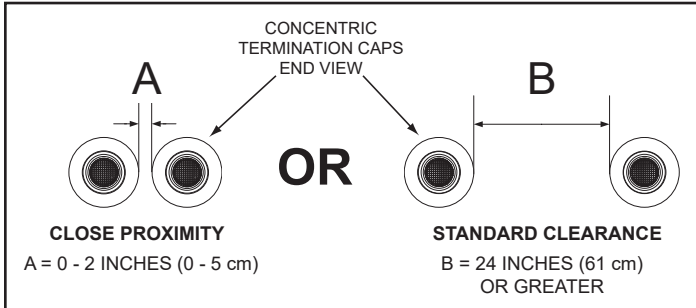
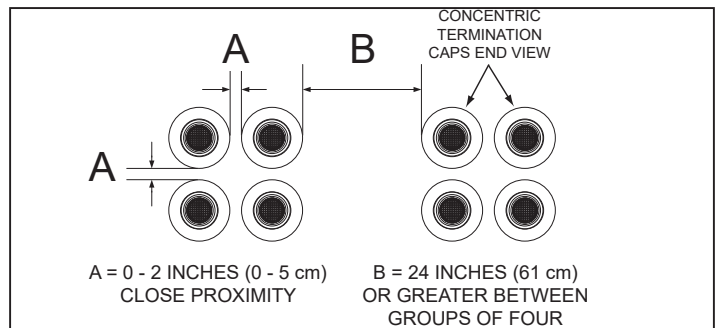
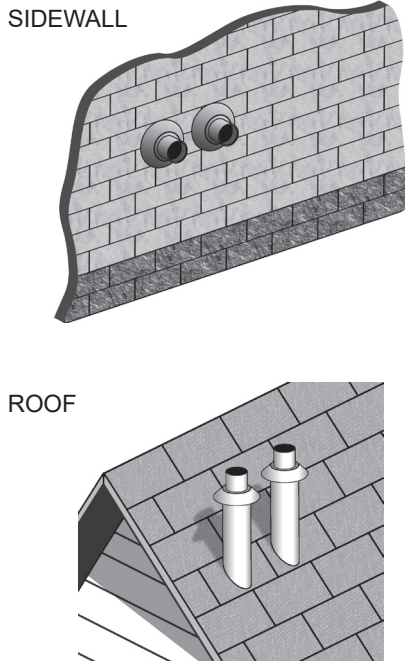
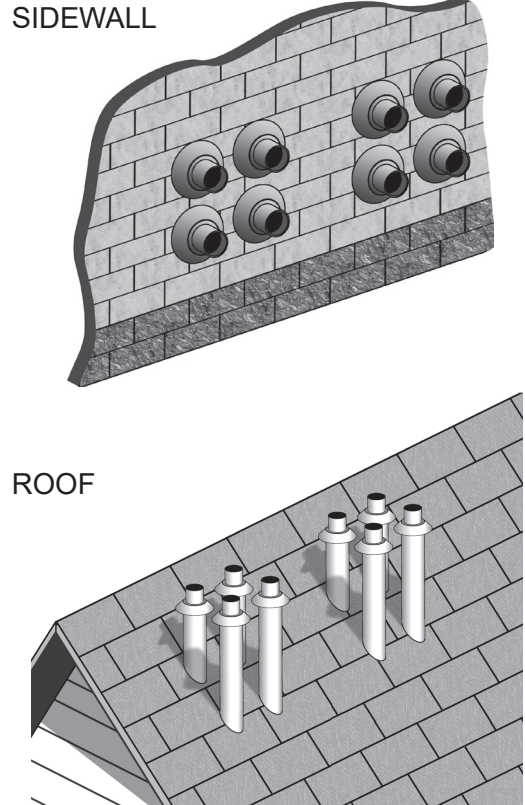

Figure 45. Two Concentric Terminations
Figure 49. Eight Concentric Terminations
Figure 50. Two Concentric Terminations - Sidewall and Roof
Figure 52. Eight Concentric Terminations - Sidewall and Roof
When installing multiple concentric terminations through a roof or through a sidewall, the clearances shown in *Figure 45* (page 43) through *Figure 49* (page 43) must be maintained.
1. The clearance between multiple termination caps must be 0 in (0 cm) / touching to a maximum of 2 in (5 cm), dimension A - *Figure 45*, when installing concentric terminations in close proximity. See *Figure 45* through *Figure 49*.
2. The clearance between multiple termination caps must be increased to a minimum of 24 in (61 cm), dimension B - *Figure 45*, when installation in close proximity (above) is not possible. This is the standard clearance.
1. When installing multiple groups of concentric terminations through a roof or through a sidewall in close proximity, they can be installed into stacked groups of four as shown in *Figure 52* (page 44). Lateral groups of four as shown in *Figure 49* can be a more convenient installation arrangement for multiple groups, depending on available space.
Two concentric terminations can be installed in close proximity as shown in *Figure 50* or with standard clearances when this arrangement is not possible. See *Figure 45* (page 43) for detailed information